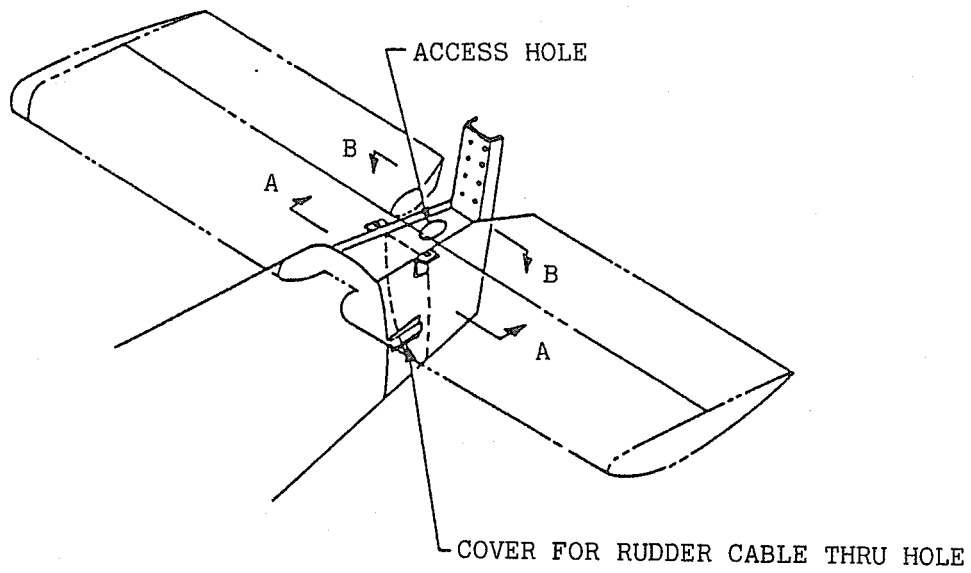
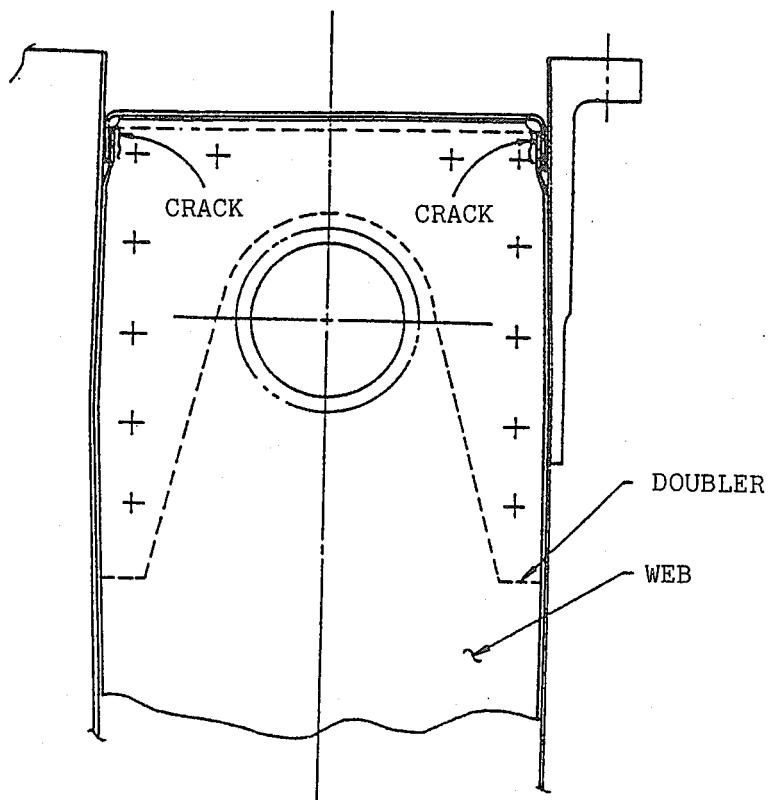

FIGURE 1. LOCATION OF F.STA 7105
FIGURE 2. (VIEW A-A) F.STA 7105 BULKHEAD
(1) Inspection of F.STA 7105 (Reference figure 2):
- (c) Inspect F.STA 7105 bulkhead web for cracks. (see figure 2 for crack suspected areas.) It is recommended that a small inspection mirror be used through the rudder cable thru hole (as shown in figure 1) for this inspection.
(2) Modification of F.STA 7105 Bulkhead (Reference figures 2 and 3):